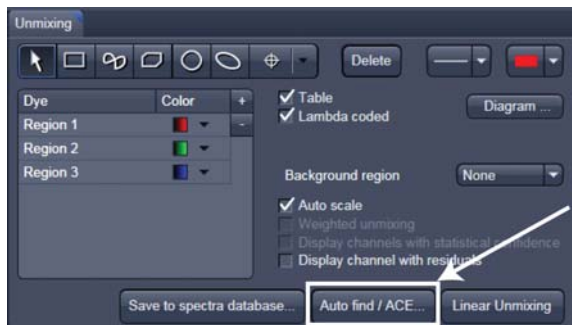

Fig. 4-250 Automatic Component Extraction function
- Click on the **Auto find / ACE...** button in the Unmixing View Option control tab (Fig. 4-250).
- When obtained spectra appear reasonable, unmix the data set by clicking the **Linear Unmixing** button (Fig. 4-250).